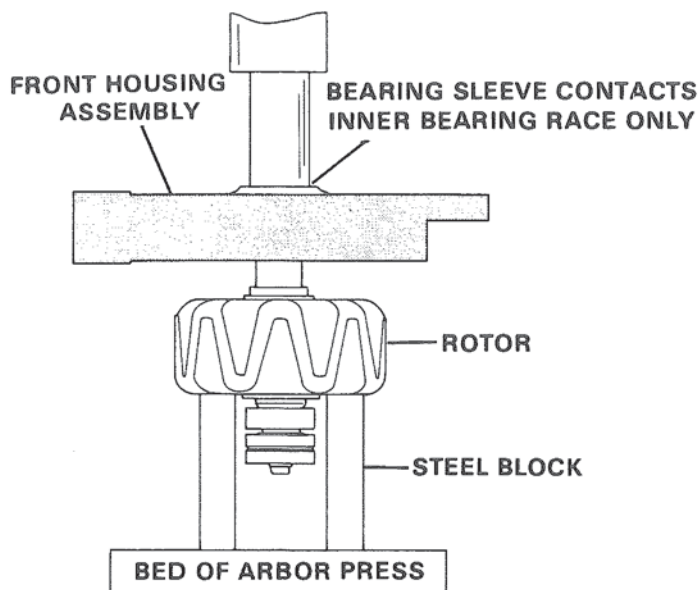

Figure 19. Assembling Front Housing to Rotor.
4. Support rotor with steel blocks in an arbor press. Place front housing over shaft. Use a bearing sleeve that contacts only the inner race and press until inner race contacts shoulder of shaft. Figure 19.